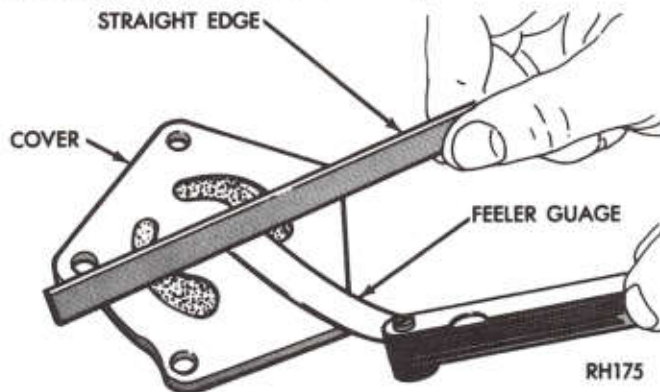

Fig. 57—Checking Oil Pump Cover Flatness
(2) Lay a straight edge across the pump cover surface (Fig. 57). If a .0015 inch (.038mm) feeler gauge can be inserted between cover and straight edge, pump assembly should be replaced.